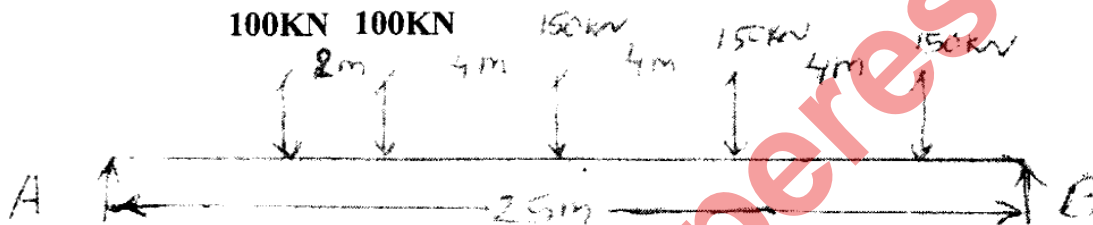

Fig 3
- b) Calculate the absolute maximum bending moment in a 25m span beam caused by a series of concentrated loads moving across the span as shown in fig.3(8)